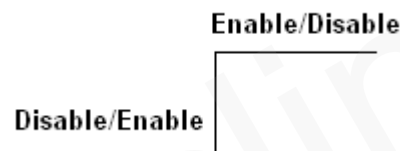
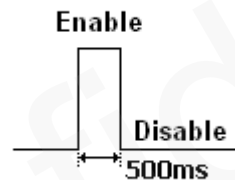
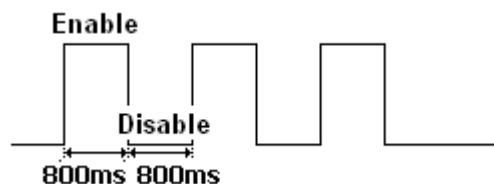
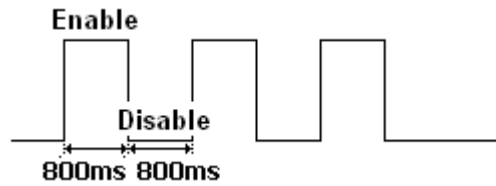

Figure 2: Wave Shape 1
Figure 3: Wave Shape 2
Figure 4: Wave Shape 3
Figure 5: Wave Shape 4
✧ <Output1 – 4 Status>: Used only for the wave shape 1 as shown in **Figure 2** to set the final status of the output port.
- ✧ <Duration>: Please refer to **Figure 2**, **Figure 3** and **Figure 4** and **Figure 5**. Unit is 100ms.
- ✧ <Toggle Times>: Please refer to **Figure 2**, **Figure 3** and **Figure 4** and **Figure 5**.